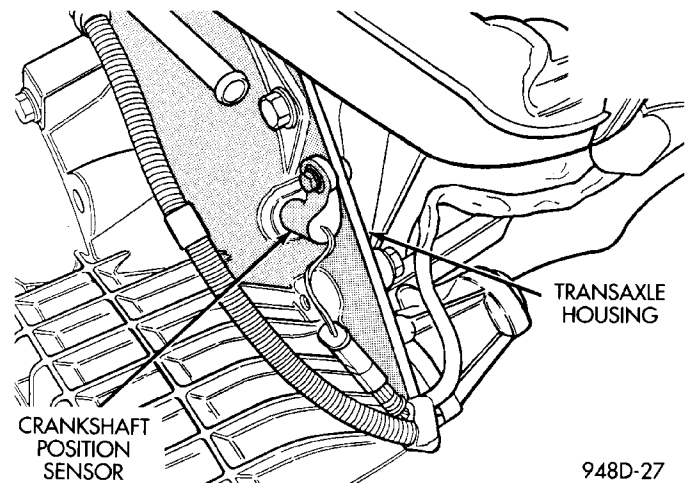

Fig. 3 Crankshaft Position Sensor Connector
- (1) Raise and support vehicle.
- (2) Disconnect crankshaft position sensor electrical connector from the wiring harness connector (Fig. 3).